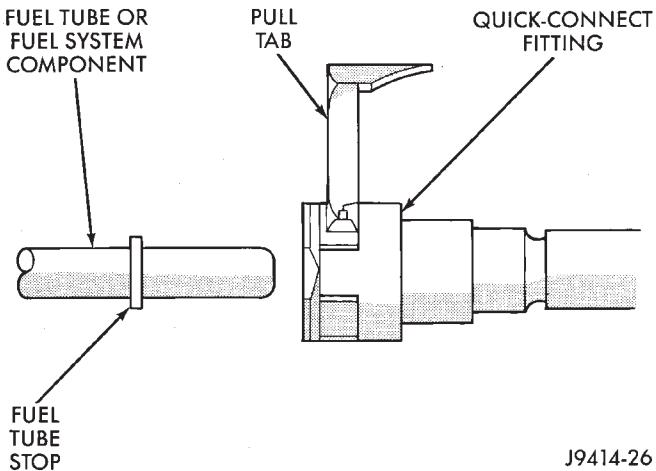

Fig. 17 Removing Pull Tab
- (6) Raise pull tab until it separates from quick-connect fitting (Fig. 17). Discard old pull tab.